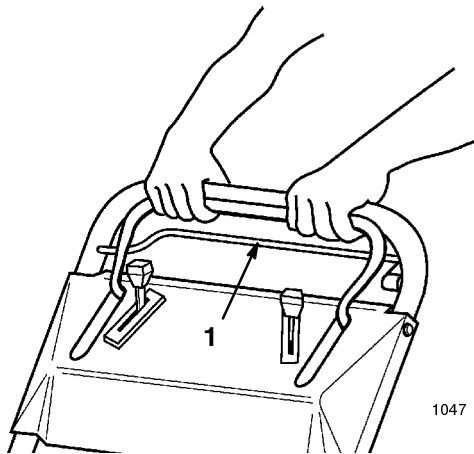

Figure 16
4. To disengage the self-propel drive, release the self-propel drive bail (Fig. 16).